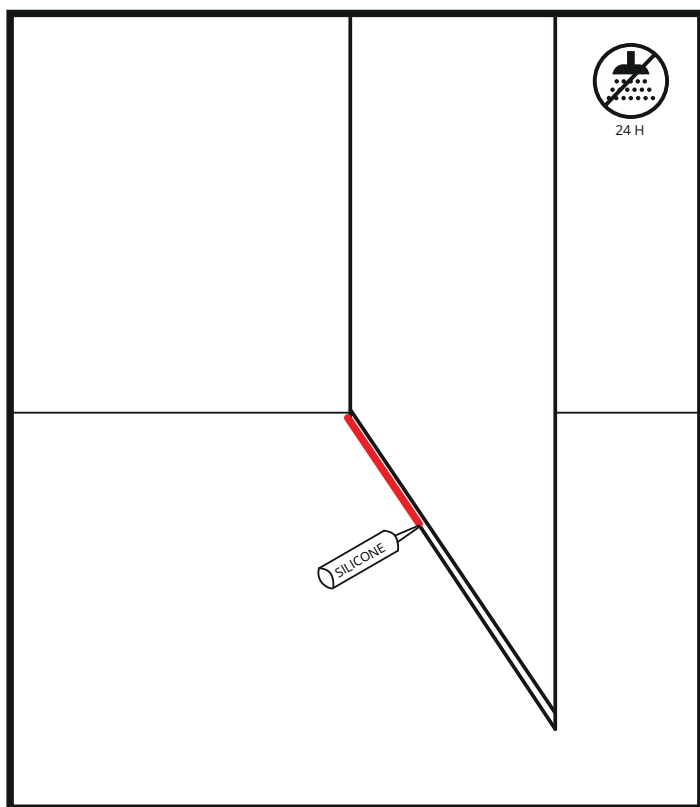
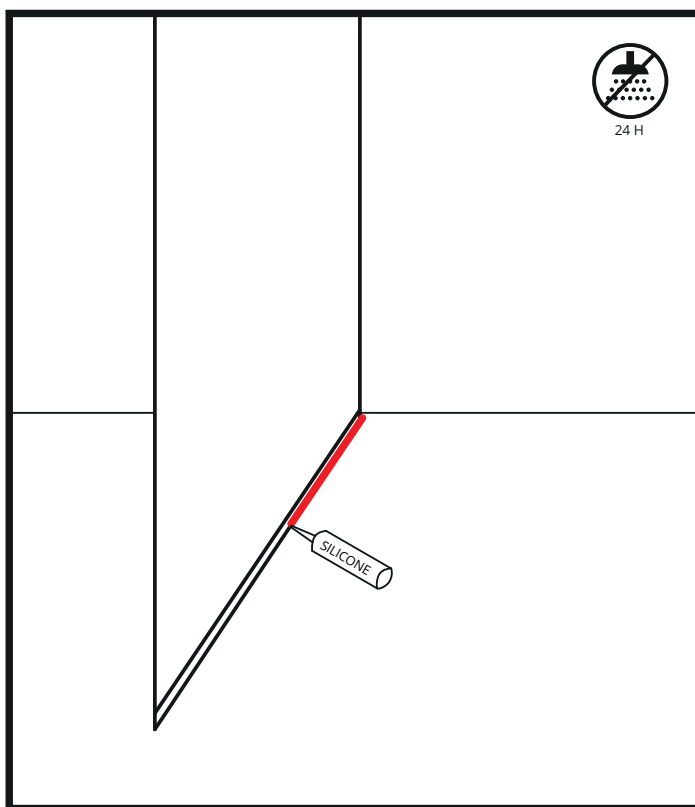

Figure 11
Figure 12
29. Apply an even bead of silicone to the edges of the U-profiles on both the inside (Figure 11) and outside (Figure 12) of the shower enclosure.